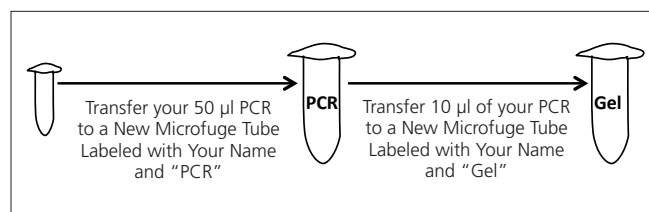

Figure 3.3: Transferring Your PCR Reaction to Microfuge Tubes.
- Transfer all 50 µl of your PCR from the small 0.2 ml PCR tube to your new labeled 1.7 ml microfuge tube, as seen in **Figure 3.3**.
11. To prepare your DNA (PCR) sample for the gel (see **Figure 3.3**):